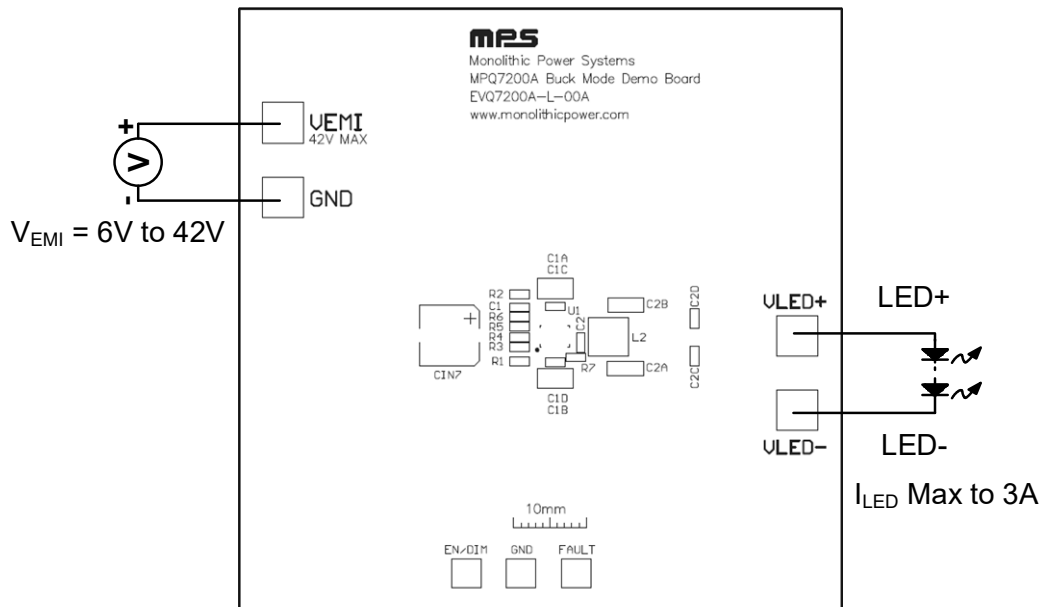

Figure 1: Measurement Equipment Set-Up
1. Preset the power supply between 6V and 42V, then turn off the power supply (see Figure 1).